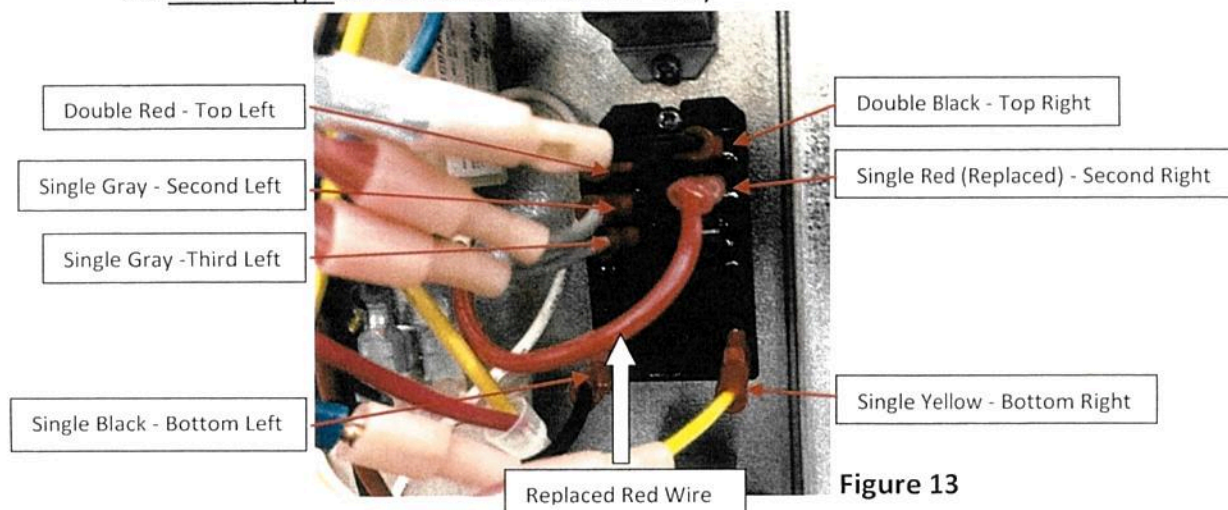

Figure 13
Step 13 – Wire the new jumper wires to the new relay. The new diagram can be used for reference (Figure 13).
Step 14 – Connect the replaced red wire from the compressor capacitor to the second right terminal #4 of the new relay (Figure 13).